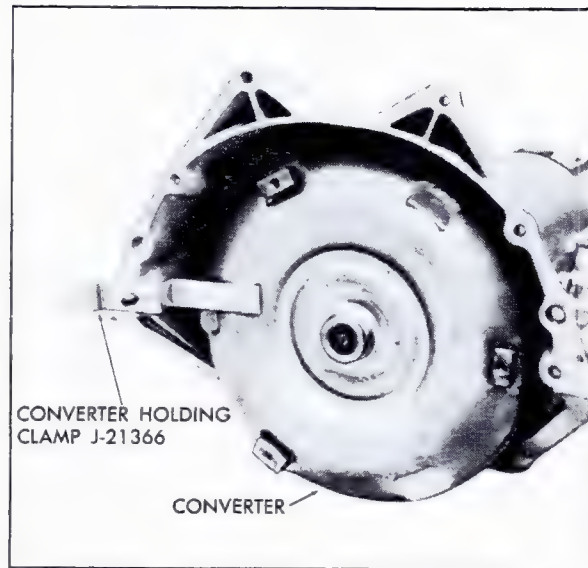

Fig. 7-39 Installing Converter Holding Clamp
21. Move transmission toward rear of car, disengaging transmission case from locating dowels on engine, install Converter Holding Clamp, J-21366, on front of transmission case, Fig. 7-39 and lower transmission from car.
certain that converter drive hub is fully engaged with pump gear tangs, and install Converter Holding Clamp, J-21366, on front of transmission case, Fig. 7-39.